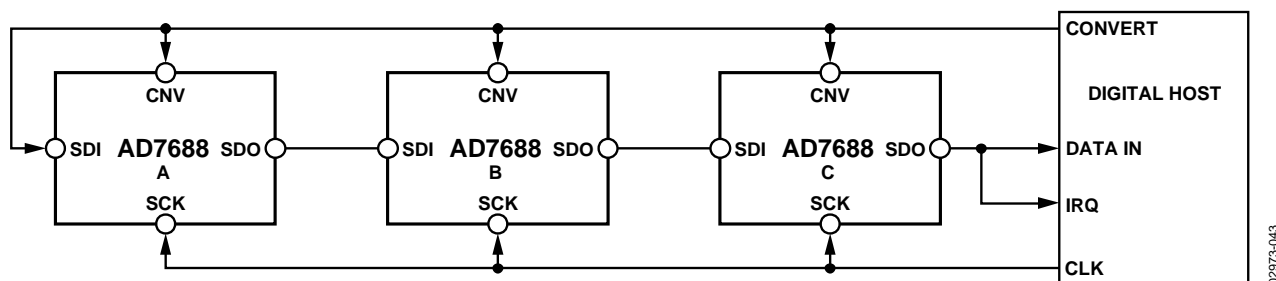
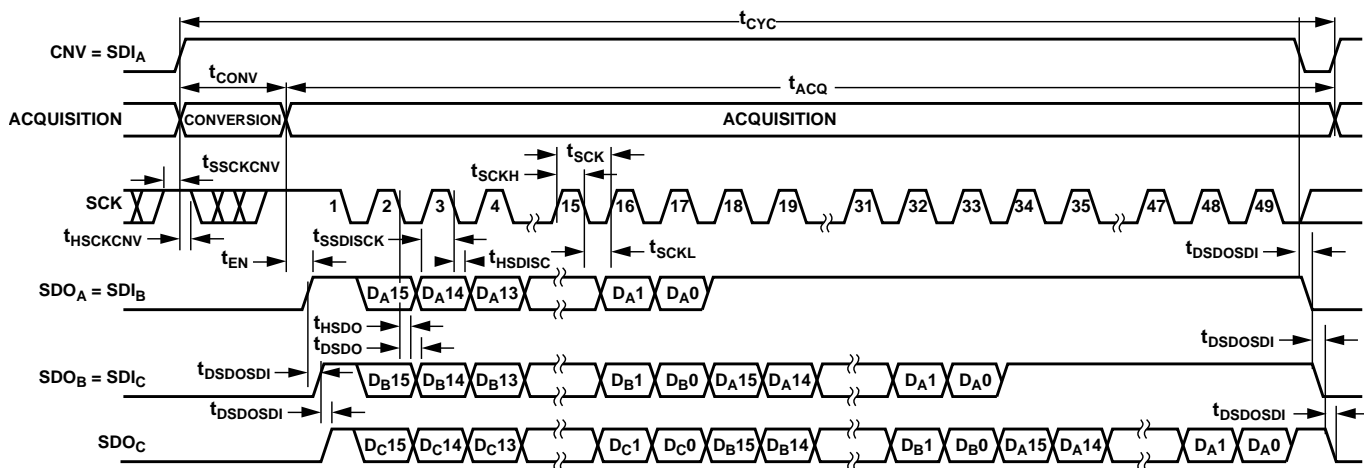

Figure 44. Chain Mode with BUSY Indicator Connection Diagram
Figure 45. Chain Mode with BUSY Indicator Serial Interface Timing
- In the chain mode, if SCK is high during the CNV rising edge (Figure 45).
A connection diagram example using three AD7688s is shown in Figure 44 and the corresponding timing is given in Figure 45.
Figure 44) SDO is driven high. This transition on SDO can be used as a BUSY indicator to trigger the data readback controlled by the digital host. The AD7688 then enters the acquisition phase and powers down. The data bits stored in the internal shift register are then clocked out, MSB first, by subsequent SCK falling edges. For each ADC, SDI feeds the input of the internal shift register and is clocked by the SCK falling edge. Each ADC in the chain outputs its data MSB first, and  $16 \times N + 1$  clocks are required to readback the N ADCs. Although the rising edge can be used to capture the data, a digital host using the SCK falling edge allows a faster reading rate and consequently more AD7688s in the chain, provided the digital host has an acceptable hold time. For instance, with a 3 ns digital host setup time and 3 V interface, up to four AD7688s running at a conversion rate of 360 kSPS can be daisy-chained to a single 3-wire port.